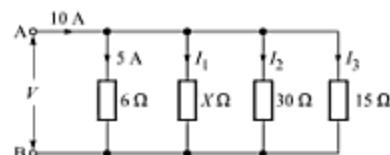

Fig. 2.43
17. In the network shown in Fig. 2.43, calculate (a) the current in the other resistances, (b) the value of the unknown resistance X , and (c) the equivalent resistance between points A and B. [Ans. (a) 2 A, 1 A, 2 A; (b) 15 Ω; (c) 3 Ω]